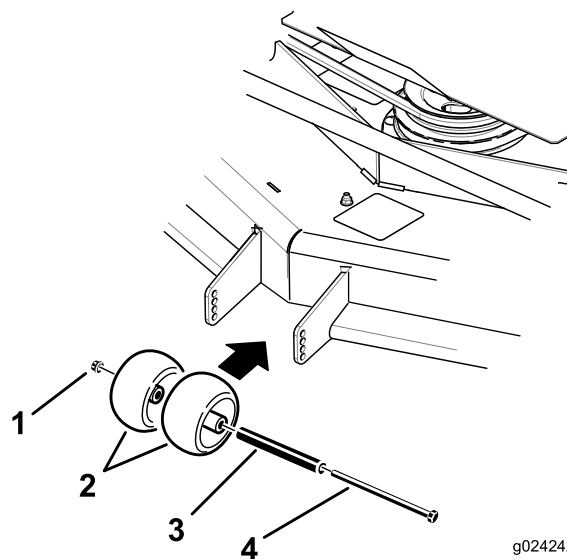
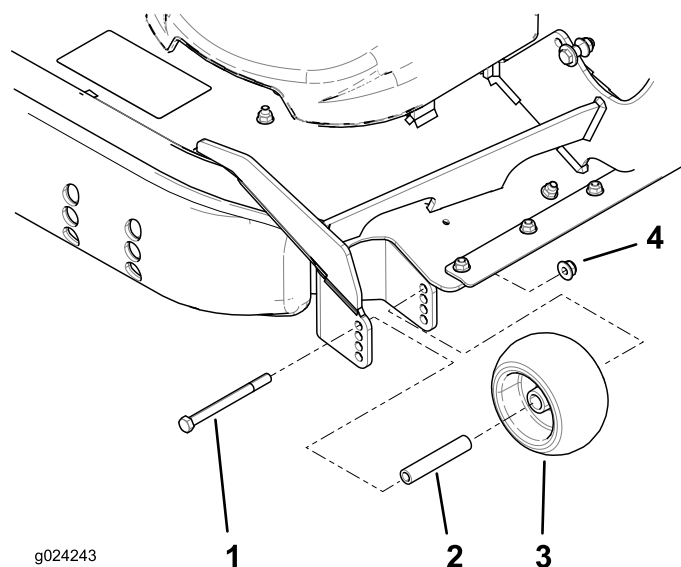

Figure 35
Figure 36
3. Adjust the anti-scalp rollers as shown in Figure 35 and Figure 36.